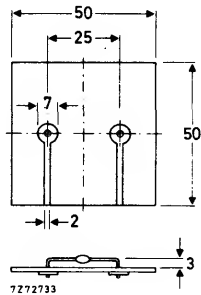

Fig. 2 Mounted on a printed-circuit board.
2. Thermal resistance from junction to ambient when mounted on a 1,5 mm thick epoxy-glass printed-circuit board; Cu-thickness  $\geq 40\text{ }\mu\text{m}$ ; Fig. 2